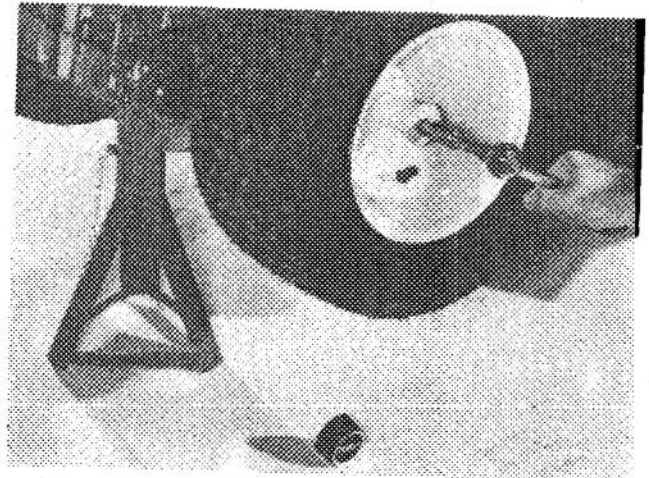

Figure 45
4. Remove the capscrew from the axle (Fig. 45).